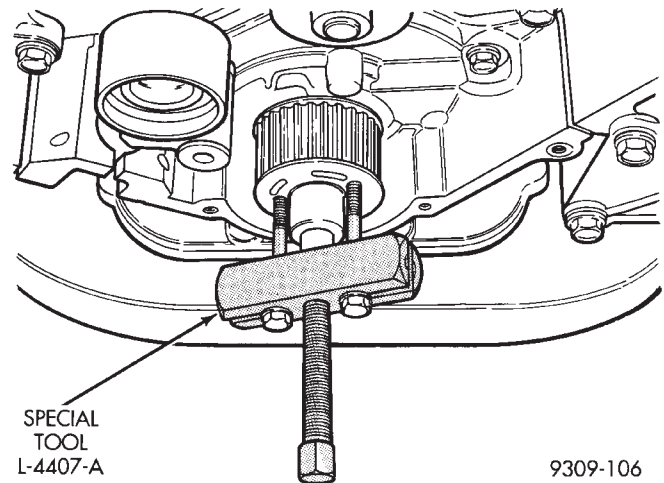

Fig. 78 Crankshaft Sprocket—Removal
(1) Remove timing belt. Refer to procedure outlined in this section.
(2) Remove crankshaft sprocket using Special Tool L-4407-A (Fig. 78).